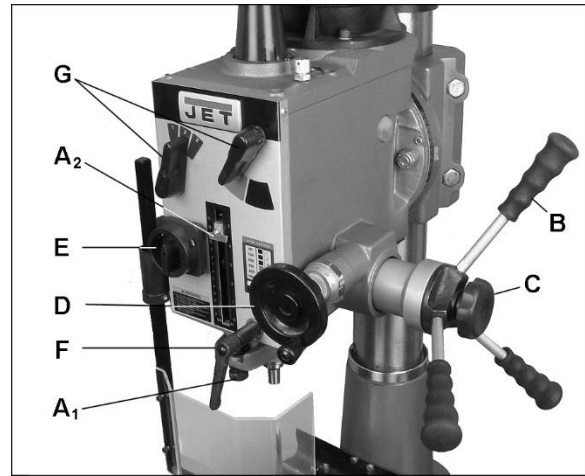
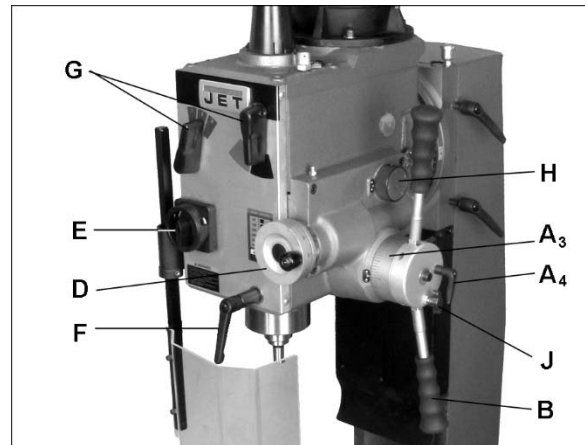

Figure 8-1: operating controls (non-PF models)
Figure 8-2: operating controls (PF models)
Refer to Figure 8-1 (non-powerfeed models) or Figure 8-2 (powerfeed models).
See Figure 8-2.
**Non-powerfeed models** (Figure 8-1):
1. Disengage spindle lock (F) and loosen lock knob (C).
2. Select spindle speed (G).
4. Turn on machine and engage workpiece using downfeed handle (B).
**Powerfeed models** (Figure 8-2):
1. Disengage spindle lock (F).
2. Set feed rate to "0" on dial (H).
3. Select spindle speed (G).
5. Tighten thumb screw (J) to prevent auto downfeed engagement.
6. Turn on machine and engage workpiece using downfeed handle (B).
2. Tighten lock knob (C).
4. Rotate fine feed handwheel (D). Scale is 0.001 inch increments.
4. Select spindle speed (G).
5. Pull handles (B) into powerfeed position.
6. Turn fine feed handwheel (D) to accomplish operation. Fine feed scale is 0.001 inch graduations. If depth reaches pre-set stop, fine feed will disengage and spindle will retract. To disengage fine feed at any time, push handle (B) toward head.
3. Tighten spindle lock (F, Figures 8-1,8-2) at desired height.